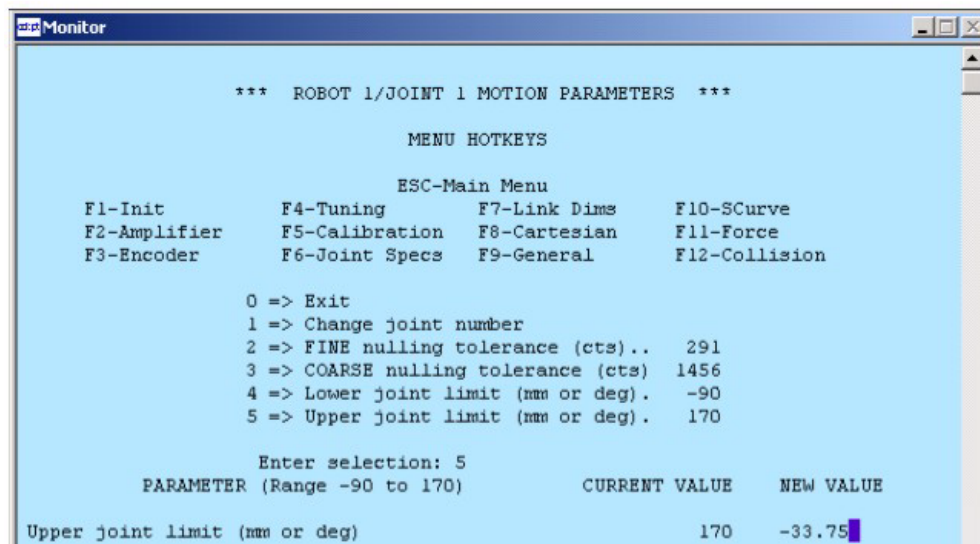

Figure 1-16. Joint 1 Menu - Upper Limits
7. Select option 5=> Upper joint limit. See Figure 1-16.